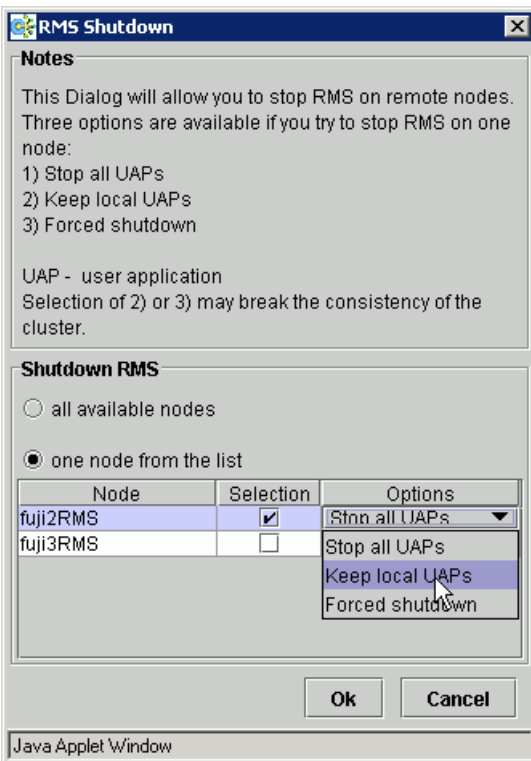

Figure 103: Stopping RMS on one node from the list
3. To shut down RMS on specific nodes, select the radio button for *one node from the list*, and then click the checkboxes of the nodes you want to shut down (Figure 103). Each node has a dropdown list in the *Options* column to provide additional control: